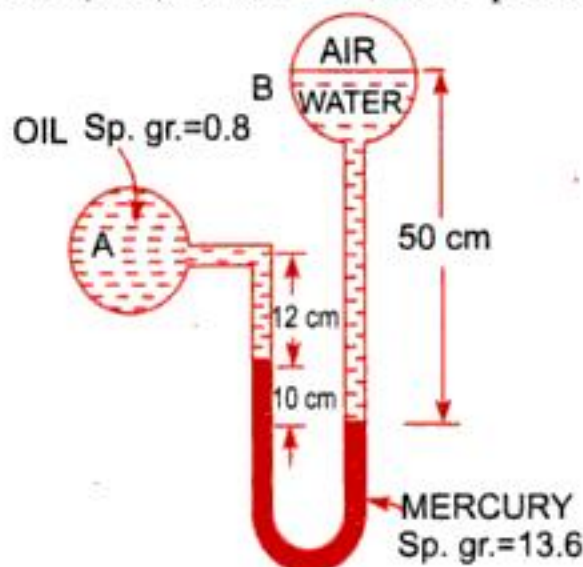

Fig. 2.25
14. A differential manometer is connected at the two points A and B as shown in Fig. 2.25. At B air pressure is  $7.848 \text{ N/cm}^2$  (abs.), find the absolute pressure at A. [Ans.  $6.91 \text{ N/cm}^2$ ]